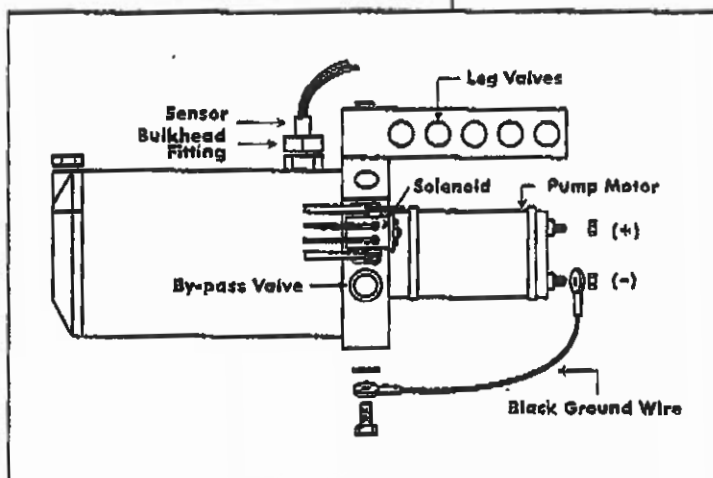

Figure 4a
1. The By-Pass valve controls the pressure at which the leveling system operates. The standard duty Level Best system operates at a pressure of 1500 pounds per square inch while the heavy duty system operates at 1800 pounds per square inch. The By-Pass valve is located on the side of the pump motor mounting block below the motor solenoid. (Fig. 4a)
2. Check pump motor to chassis / battery ground. (Figure 4a)